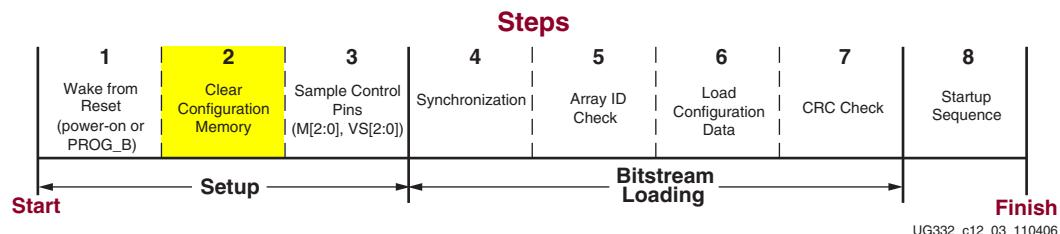

Figure 12-5: Clear Configuration Memory (Initialization)
2. Hold the **INIT_B** pin Low during initialization, which stalls the configuration process in Step 2 shown in Figure 12-5, page 247. However, after the FPGA releases **INIT_B** High, the application cannot subsequently delay configuration by pulling **INIT_B** Low.